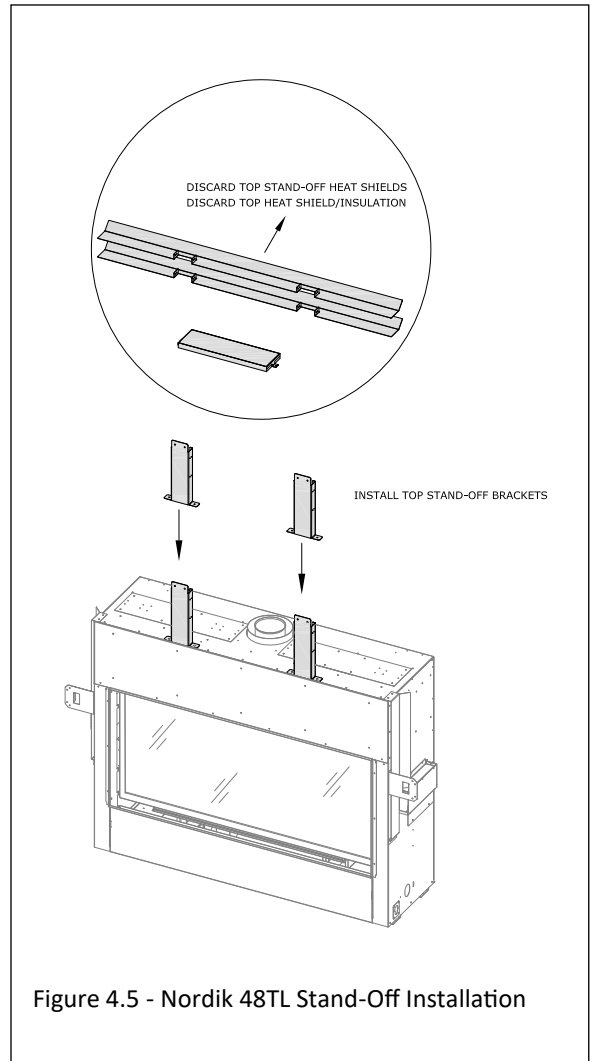

Figure 4.5 - Nordik 48TL Stand-Off Installation
7. Install top stand-off brackets. See Figure 4.5.
8. Discard the (2) top stand-off heat shields and the top heat shield / insulation.